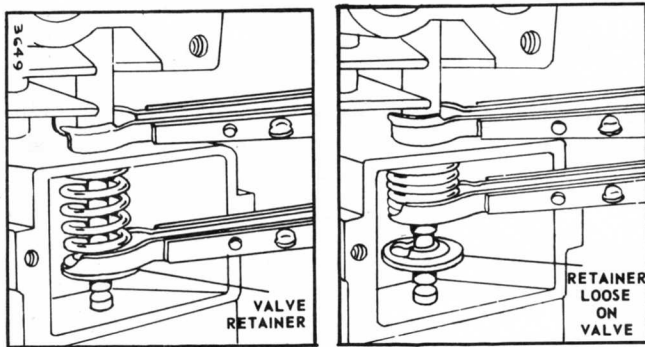

FIGURE 5-4
3. Slide the lower jaw between the spring and the retainer. See figure 5-4.